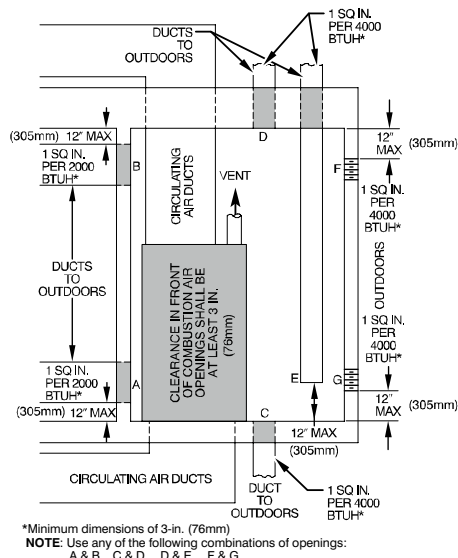

Fig. 8 – Air for Combustion, Ventilation, and Dilution for Outdoors
2. Provide **TWO OUTDOOR OPENINGS**, one inlet and one outlet combustion and ventilation air opening, to the outdoors, see Fig. 8.
- b. Size openings and ducts, see Fig. 8 and Table 3.
- c. **TWO HORIZONTAL DUCTS** require 1 sq. in. (645 sq. mm) of free area per 2,000 Btuh (1,100 mm2/kW) of combined input for all gas appliances in the space, see Fig. 8 and Table 3.
- d. **TWO OPENINGS OR VERTICAL DUCTS** require 1 sq. in. (645 sq. mm) of free area per 4,000 Btuh (550 mm2/kW) for combined input of all gas appliances in the space, see Fig. 8 and Table 3.
- a. 1 sq. in. (645 sq. mm) of free area per 3,000 Btuh (734 mm2/kW) for combined input of all gas appliances in the space, see Fig. 8 and Table 3.